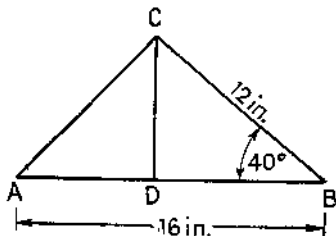

Fig. 31
(5) Three holes are bored in a plate with centres  $A$ ,  $B$  and  $C$  where  $AB = 16 \text{ in.}$ ,  $BC = 12 \text{ in.}$  and  $ABC = 40^\circ$ . Calculate the length of  $AC$  (fig. 31).